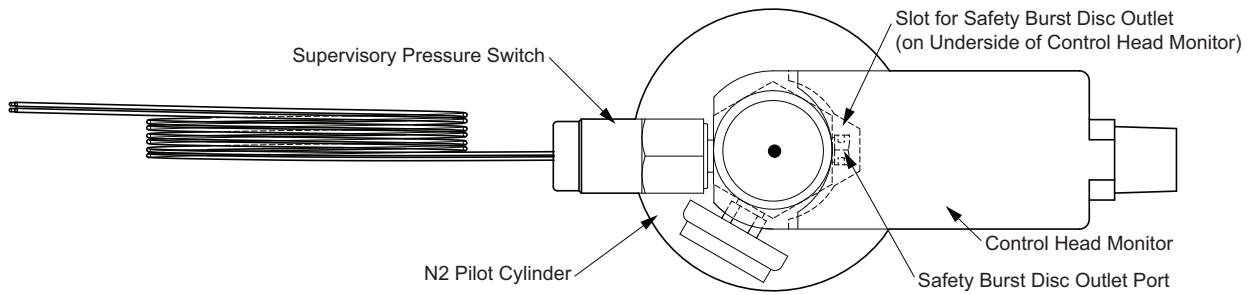
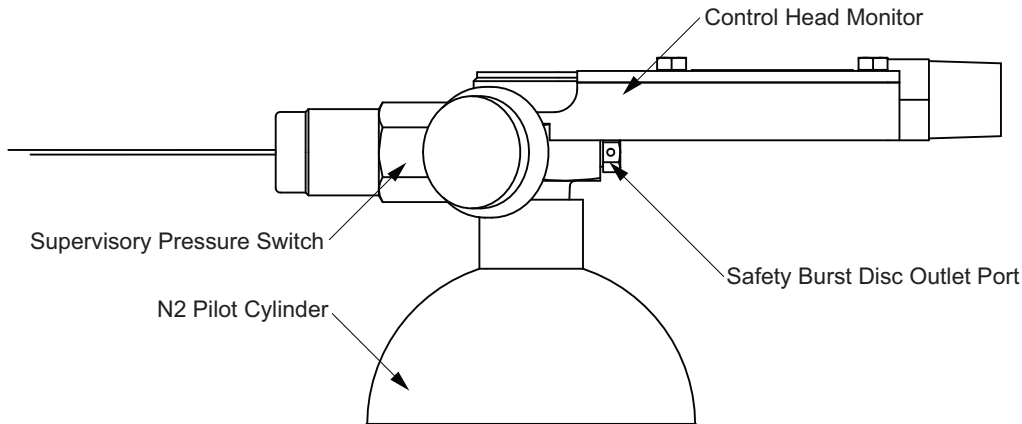

Figure 4-42. Control Head Monitor and Pilot Cylinder, Top View, no Control Head Shown
Figure 4-43. Control Head Monitor and Pilot Cylinder, Side View
**Note:** Position the CHM so that the main body is opposite the supervisory switch (see Figure 4-43) For additional confirmation of proper positioning, the underside of the CHM's body has a slot that sits above the safety disc on the valve (see Figure 4-42 and Figure 4-43).